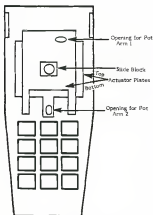

Figure 6-5. Controller Top (Underside)
NOTE: The actuator plates must be replaced as a complete unit which includes the two actuator plates and the slide block (see Figure 6-5).
- The actuator plates are correctly positioned in the top controller case (refer to Figure 6-5).
- The pot arms are set into the holes in the actuator plates (refer to Figure 6-5).